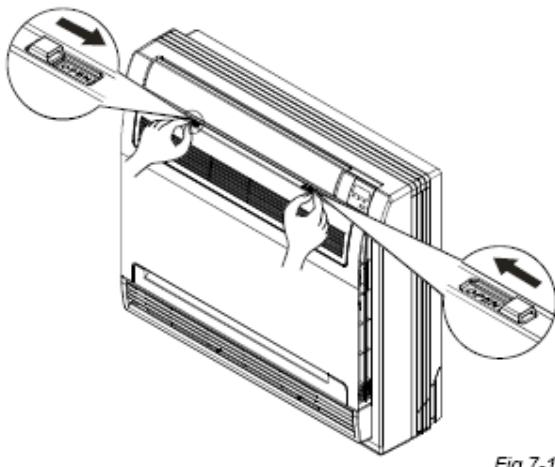

Fig.7-1
- Slide the two stoppers on the left and right sides inward until they click .(Refer to Fig.7-1)